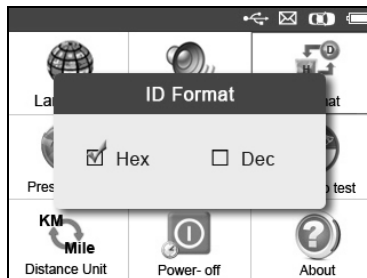

Figure 3.5
- 2) From **ID Format** screen, use the **LEFT/RIGHT** scroll button to select the desired ID format. (Figure 3.5)